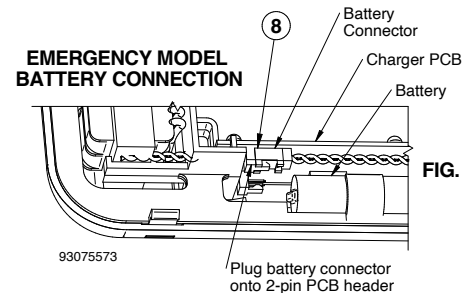

FIG. 3
8. For em models, connect the battery as shown. (see Fig. 3).